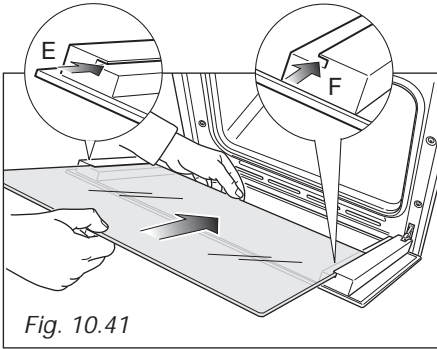
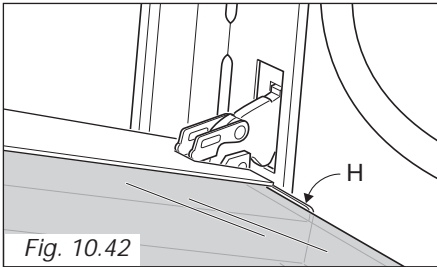

Fig. 10.41
Fig. 10.42
- Insert the pane in the left **E** and right **F** slide guides (fig. 10.41), and gently slide it to the retainers **H** (Fig. 10.42).